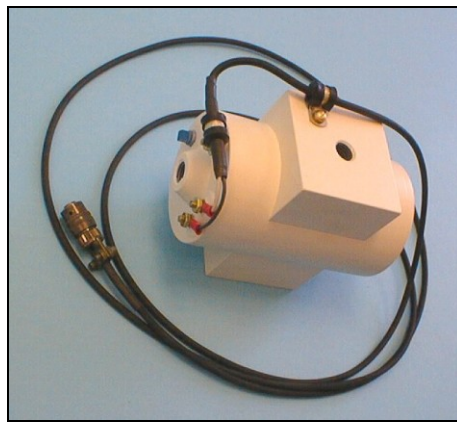

Figure 12. Bottom sensor with gradiometer cable attached
- 3) As shown in Figure 12, attach the other gradiometer sensor cable to the bottom sensor in the same manner used on the top sensor.